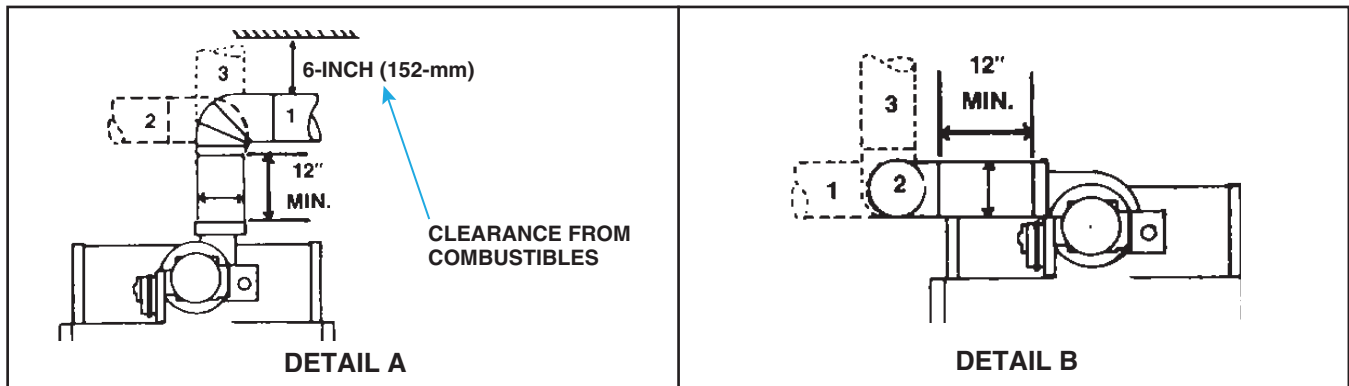

Figure 13. Rotating Venter Outlet
The venter is factory-installed as shown in Figure 13, DETAIL A. If required, the venter housing may be rotated as shown in Figure 13, DETAIL B. The vent may be run in one of three directions (1, 2, or 3) as shown. Rotate the venter housing as follows:
3. While holding motor, rotate venter housing to alternate position (1, 2, or 3) as shown in Figure 13, DETAIL B and reinstall motor plate to housing using three screws. To ensure correct venter wheel alignment, holes are provided in motor plate.